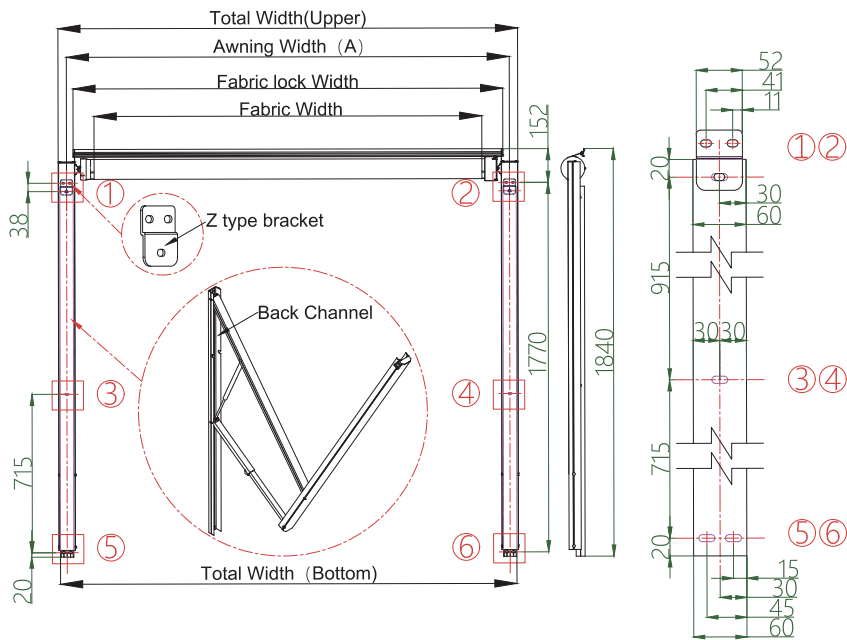
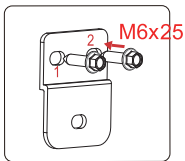

Fig.1
Fig.2
1. Please find correct installation position according to the arm drawing which shown in the above Fig.1, and fix Z type bracket upper holes (1. & 2.) on the car. Fig.2 & 3